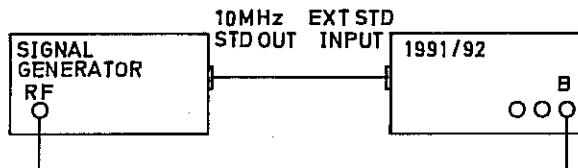

Fig 7.12 Connections for Channel B Input System Adjustment
(3) Press the RESOLUTION ↓ key five times, until 000 is displayed.
(4) Connect the test equipment as shown in Fig 7.12.
(5) Set the signal generator output to 100 MHz at a level of 3.0 mV r.m.s.
(6) Verify that the EXT STD indicator is lit, and that the channel B TRIG indicator is flashing.
(7) Adjust R193 to obtain the most stable display indication of  $100.0 \underline{6} \pm 0.1 \underline{6}$ , with the GATE indicator flashing.